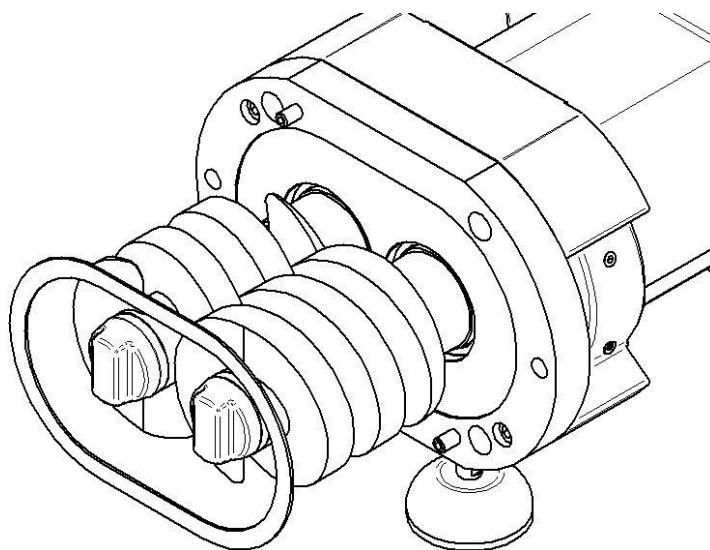

Fig. 37 – assembly of gasket/O-ring
- Type 4: electric motor CCW direction of rotation. Position of the screws and fluid direction as shown in Fig.37, discharge side on the side of the pump.